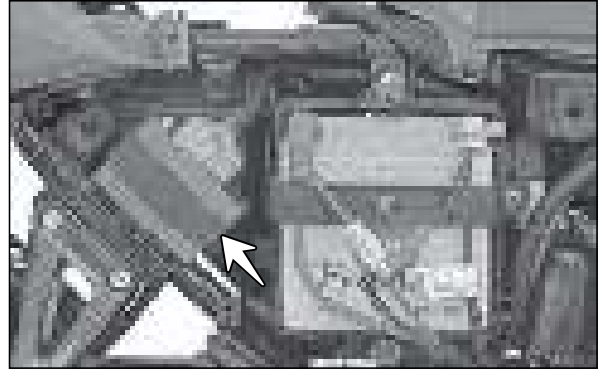

Fig. 5.14
- TCI unit (transistor control unit) is placed below the fuel tank assembly near the battery. TCI unit can be checked by doing a good (or) bad analysis (replacing existing with a new one). (Fig.5.14)